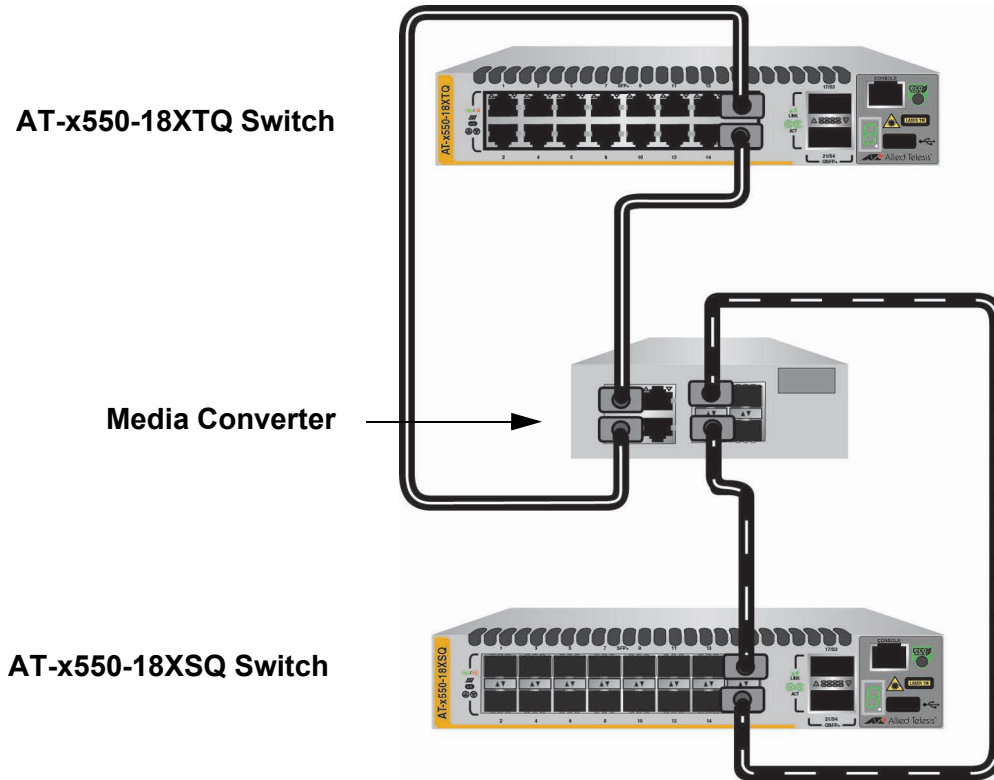

Figure 27. Invalid Stack Trunk with a Intermediary Networking Device
- ❑ Stack trunks must be direct links between trunk ports. There cannot be any intermediary networking devices, such as media converters, Ethernet switches, or routers, between trunk ports. Figure 27 is an example of this type of invalid trunk.